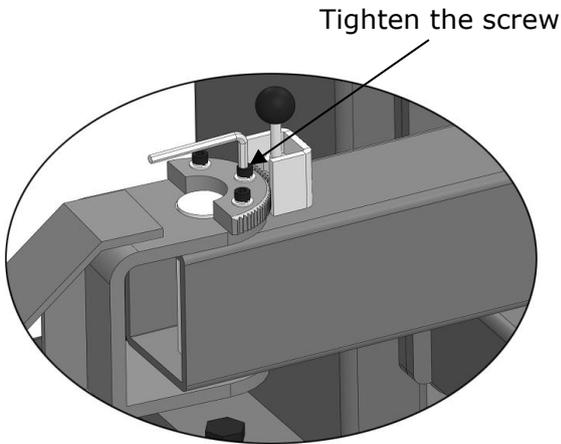
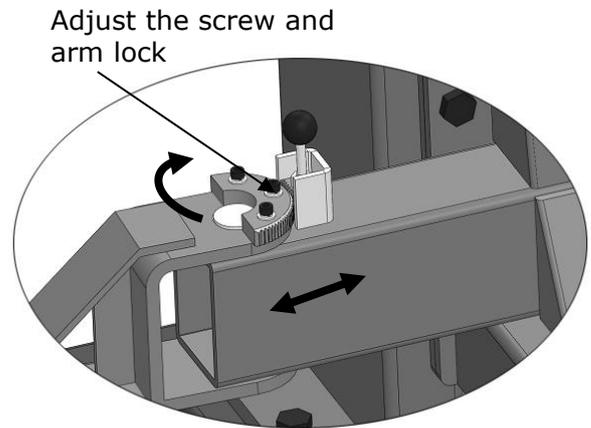

Fig.19
Fig.20
H. Install lifting arms (see Fig.17); Lowering the carriages down to the lowest position, then use the 6# wrench to loosen the nut (See Fig. 18) Adjust the arm lock as arrow direction (See Fig. 19). Adjust moon gear and arm lock to make it to be good engagement, then tighten the nut of arm lock (See Fig. 20).